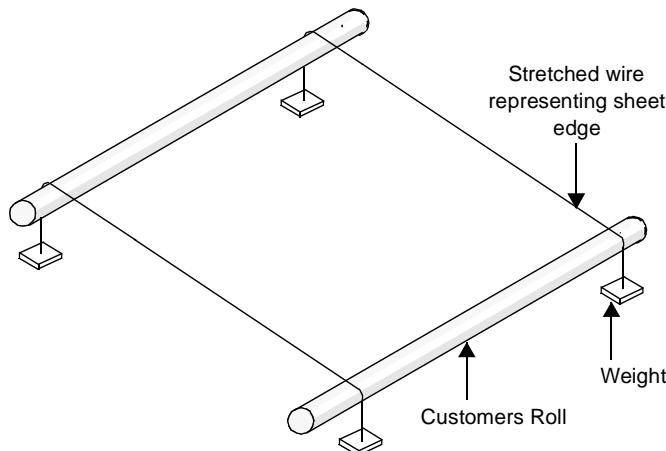

Figure 3-12 Simulating the Process Pass Line
7. Thread two parallel lengths of wire over the rolls onto which the process is being guided. See Figure 3-12.